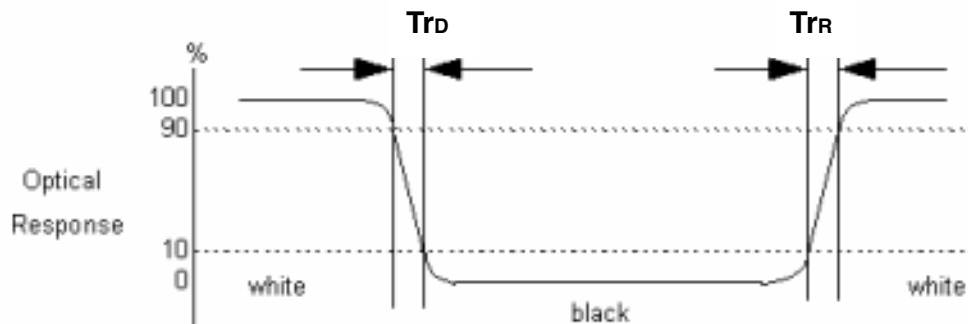

Fig.4-3 Response time
4. Response time is the time required for the display to transition from white(L255) to black(L0) (Decay Time, $T_{RD} = T_f$) and from black(L0) to white(L255) (Rise Time, $T_{RR} = T_r$). For additional information see Fig. 4-3.